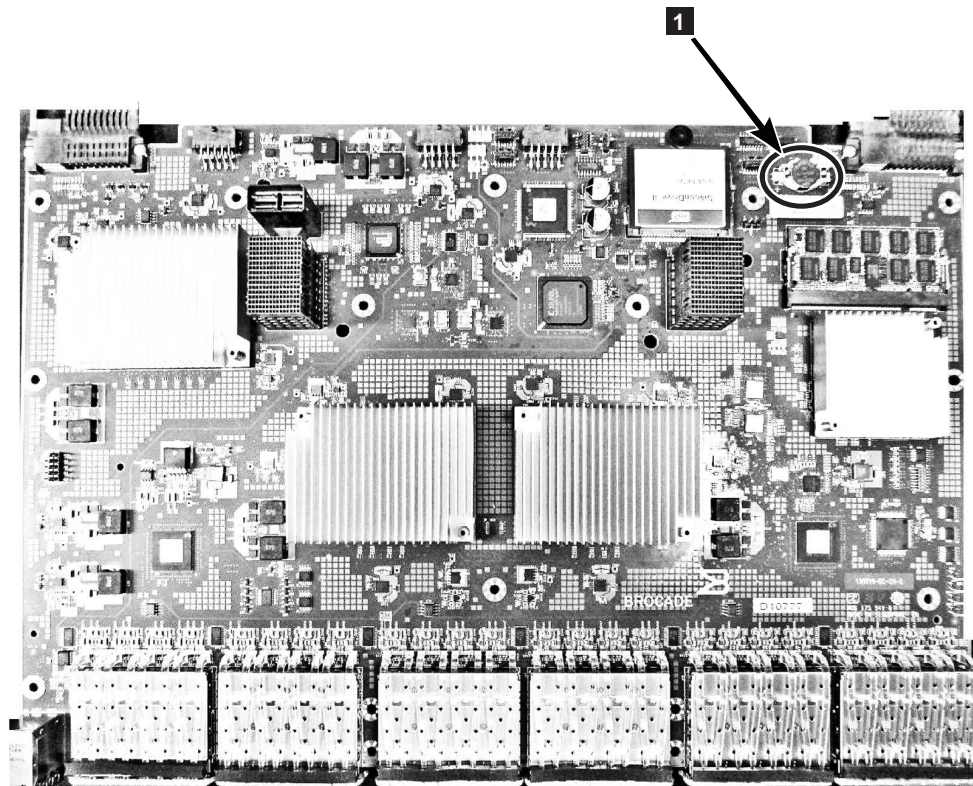

Figure 60. Location of battery holder
5. On the main circuit board, go to location **1** shown in Figure 60 and remove the BR1225 battery from the holder.